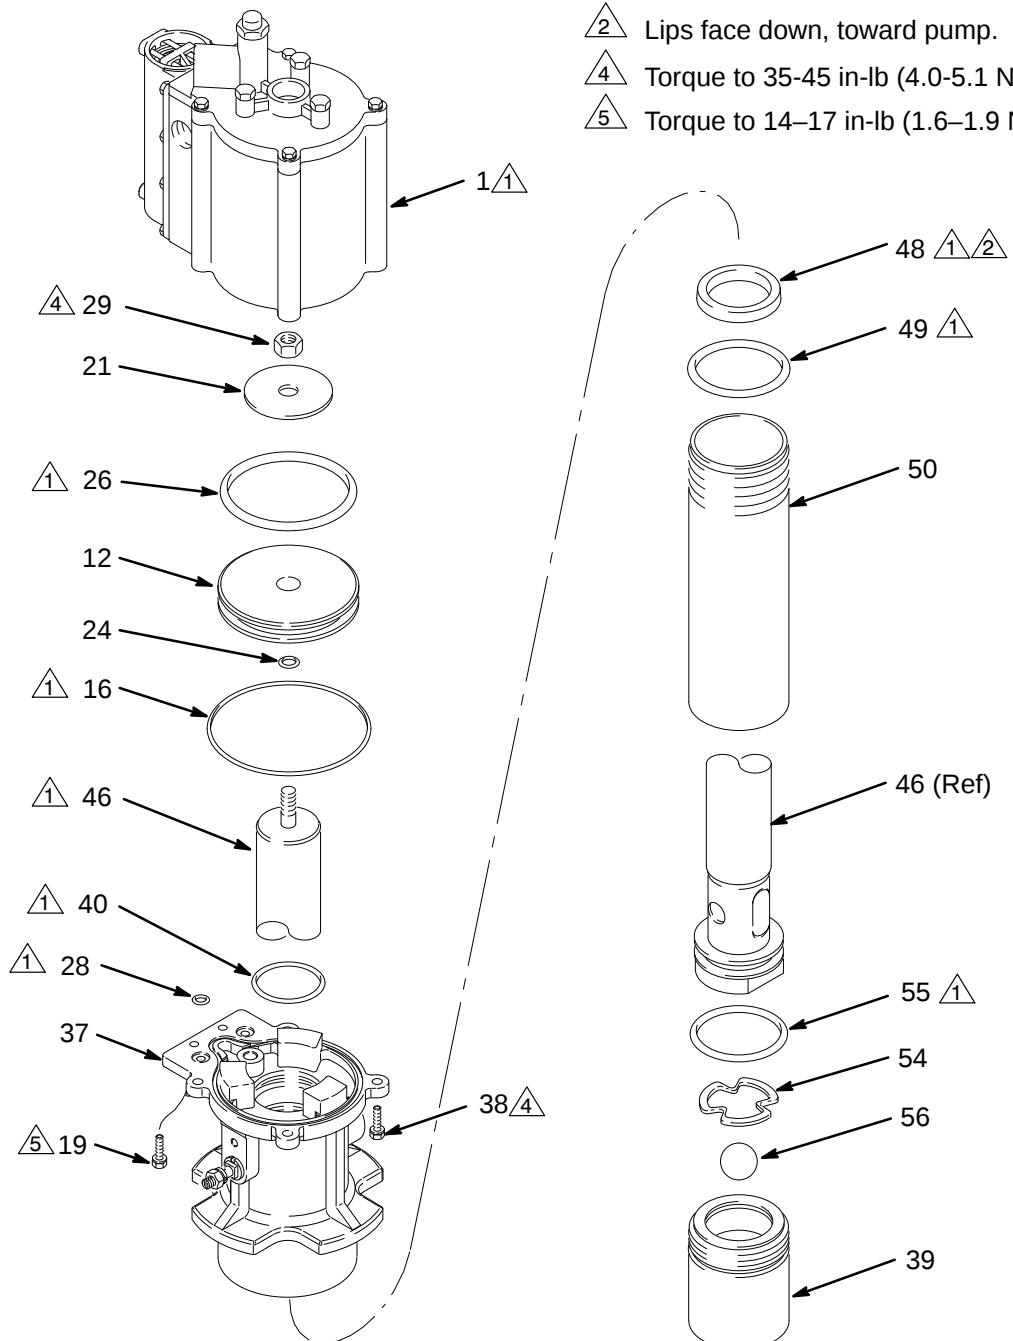
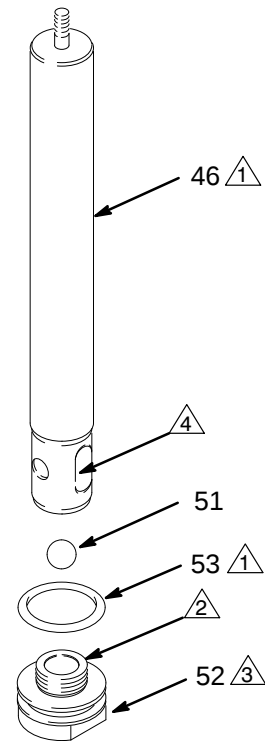

Fig. 5
Fig. 6
2. Remove the four screws (38) and two screws (19) holding the air motor base (37) to the air motor cylinder (1). Pull the cylinder off the base, remove the large o-ring (16) and two small o-rings (28), and set these parts aside. See Fig. 5.
3. Unscrew the intake valve housing (39) from the pump cylinder (50). Disassemble the intake valve.
- ① Grease.
- ② Lips face down, toward pump.
- ④ Torque to 35–45 in-lb (4.0–5.1 N.m).
- ⑤ Torque to 14–17 in-lb (1.6–1.9 N.m).
4. Use a strap wrench on the pump cylinder (50) to loosen it from the motor base (37). Continue to unscrew the cylinder from the motor base by hand until the cylinder comes free. Pull the cylinder off the pump. See Fig. 5.
5. Hold the flats of the fluid piston (52) in a vise. Unscrew the nut (29) from the top of the displacement rod (46). Remove the washer (21), o-ring (24), piston o-ring (26), and air motor piston (12) and set them aside. Pull the motor base (37) up off the displacement rod.
6. Using a wrench on the flats of the displacement rod (46), unscrew the rod from the piston (52). Remove the ball (51) and o-ring (53). See Fig. 6.
7. Remove the o-ring (49) and block packing (48) from the inside bottom of the motor base (37).
8. Remove the o-ring (40) from inside the base.
- 4 Flats of rod (46).
1. Grease the o-ring (40) and install it inside the top of the base. See Fig. 5.
2. Grease the block packing (48) and install it in the motor base (37). The lips of the packing must be facing down, toward the pump. Grease the o-ring (49), and install it in the bottom of the motor base (37).
3. Grease the displacement rod (46) and slide it down into the air motor base (37) so the narrow end protrudes from the top of the base.
4. Grease the o-ring (53) and install it on the fluid piston. Apply thread sealant (111–368) to the piston threads. Place the piston upright in a vise with the jaws on the flats. Set the ball (51) on the piston seat. Screw the displacement rod (46) with the motor base (37) onto the piston. Using a wrench on the flats of the rod, torque to 40–60 ft-lb (54–81 N.m). See Fig. 6.
5. Install one o-ring (24), the air motor piston (12), and the flat washer (21) on the displacement rod (46). Make sure the chamfer side of the piston (12) is facing down toward the o-ring (24). Screw the nut (29) onto the displacement rod (46). Torque to 35–45 in-lb (4.0–5.1 N.m). Grease the large o-ring (26) and install it in the outer groove of the piston (12). See Fig. 5.
6. One end of the cylinder (50) has threads on the outside. Slide this end over the fluid piston and into the motor base (37) so the threads engage with the base. Screw the cylinder into the base by hand, then place the base in a vise with soft jaws.
7. Grease the o-ring (55) and install it on the intake valve housing (39). Install the ball (56) and ball retainer (54), and screw the valve housing securely into the cylinder (50). Use a pipe wrench on the knurled portion of the intake valve housing to tighten the valve and cylinder.
8. Remove the pump from the vise. Grease the large o-ring (16) and two small o-rings (28), and install them on the motor base (37). Grease the inside of the air motor cylinder (1), and position it on the base. Install the four screws (38) and torque to 35–45 in-lb (4.0–5.1 N.m). Install the two screws (19) and torque to 14–17 in-lb (1.6–1.9 N.m).